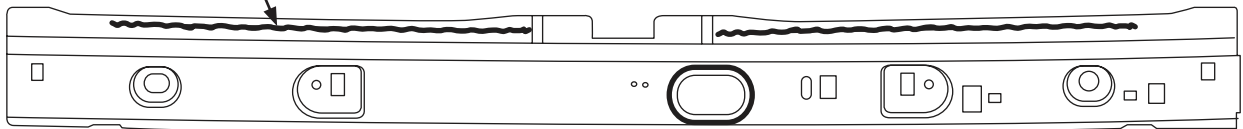

FIGURE 2
- Black dots represent the location of the ten (10) blind rivets (W707638-S900C).
- (Refer to Figure 2) for location for adhesive material.